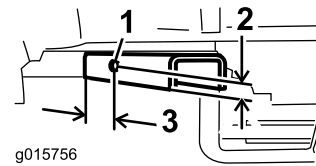

Figure 8
- B. For the hole in the rear footrest support, use the measurements in Figure 8.